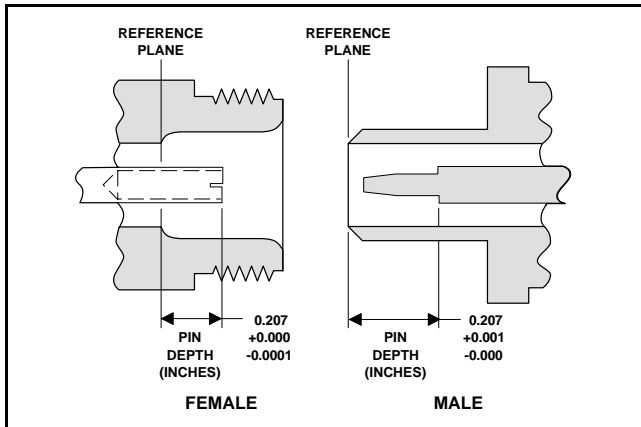
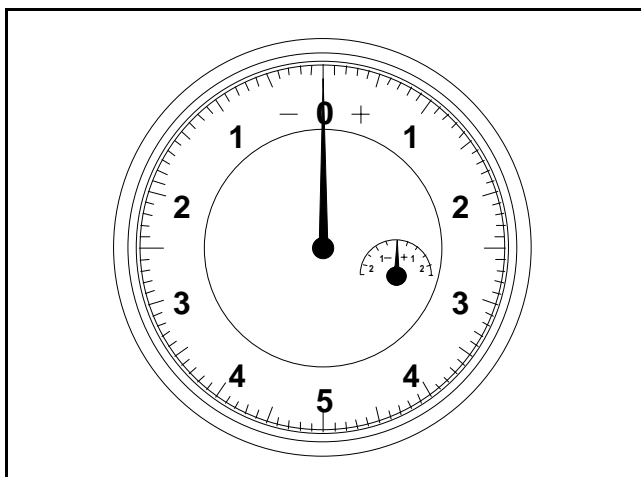

Figure 3. N Connector Pin Depth Definition
Figure 2. Pin Depth Gauge
- a. **Beware of Destructive Pin Depth on Mating Connectors.** Measure the pin depth (Figure 2) of the connector that mates with the RF component, *before* mating. Use a ANRITSU Pin Depth Gauge (Figure 3) or equivalent. Based on RF components returned for repair, destructive pin depth on mating connectors is the major cause of failure in the field. When an RF component